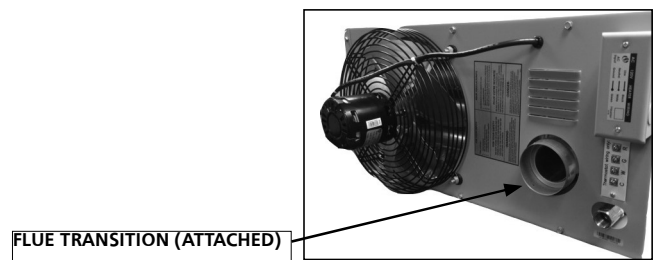

FIGURE 4
- The vent pipe diameter for horizontal commercial installations shall be 4" (76mm) on 50 units. Because of this a transition piece has been supplied and is already attached to your heater. Refer to figure 4